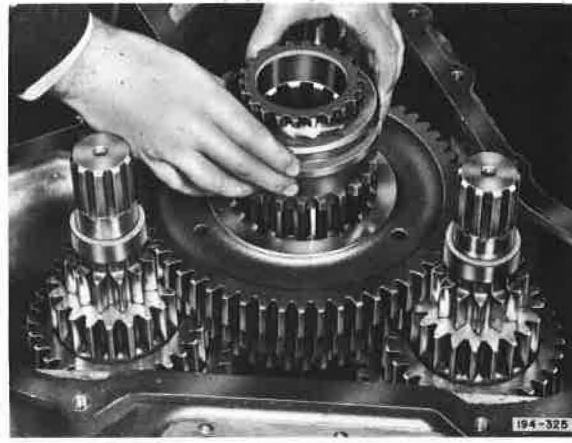

Figure 5-35. Removing First Speed Sliding Clutch
16. With transmission front case still in a vertical position, remove mainshaft sliding clutches and gears from case. See Figure 5-35.